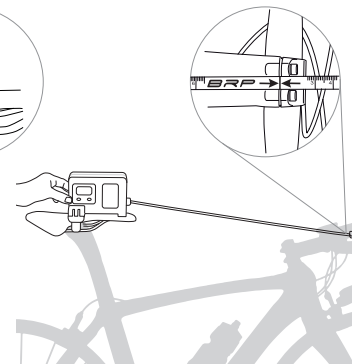

Fig. 7
7. Use the metric tape (Fig. 2) to measure BRP/Bottom Bracket distance (Fig. 6) and BRP/Handlebar distance (Fig. 7).